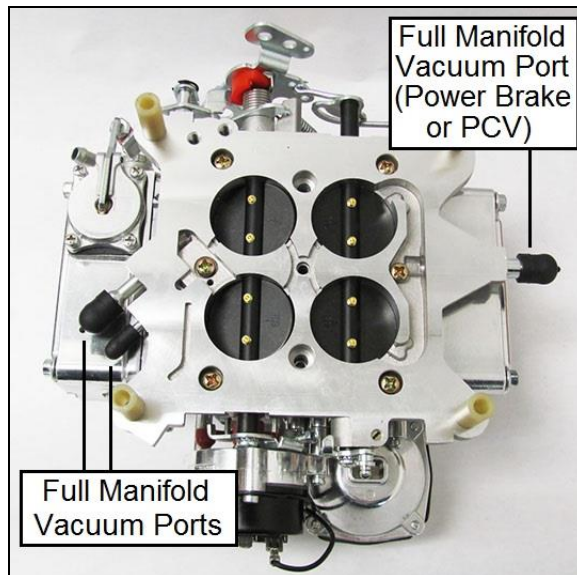

Figure 3
6. Reconnect the appropriate vacuum hoses to the carburetor, noting the correct fitting from **Figure 2a** and **Figure 3**. Replace any cracked or dry rotted hoses at this time to prevent any vacuum leaks.
8. Connect the power brake and/or PCV hose to the fitting (**Figure 3**).
1. Attach the vacuum gauge to a manifold vacuum port on the throttle body (**Figure 3**).